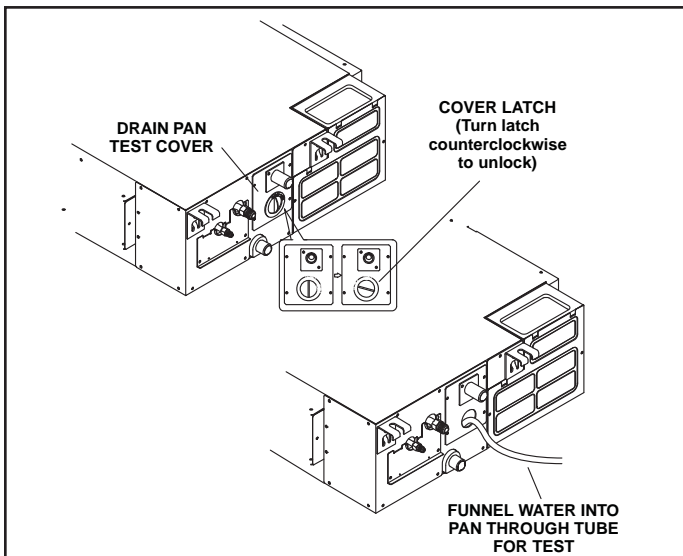

Figure 13. Condensate Drain Test
7. After system installation is complete, the condensate drain line must be checked for leaks and the condensate pumps must be checked to ensure proper operation. This check is part of the commissioning sequence. Turn the condensate drain pan test cover latch counterclockwise to open the cover and access the drain pan. See figure 13. Funnel enough water to engage the pump into the drain pan through a flexible tube.